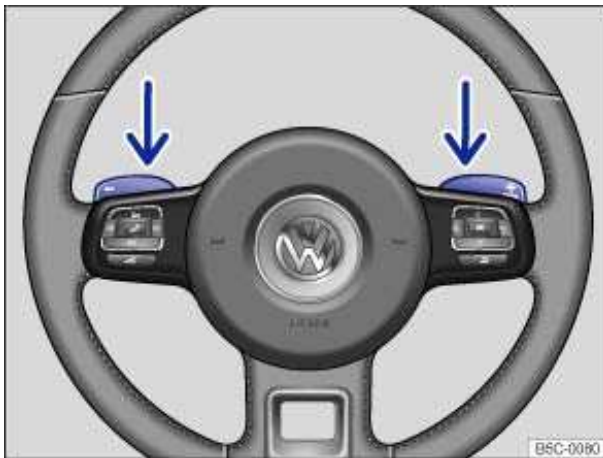

Fig. 102 Steering wheel with optional Tiptronic shift paddles.
- The paddles ⇒ fig. 102 work when the selector lever is in the Tiptronic position or when the selector lever is in Drive (**D**) or Sport Drive (**S**). You do not have to move the selector lever over to the right into the Tiptronic position.